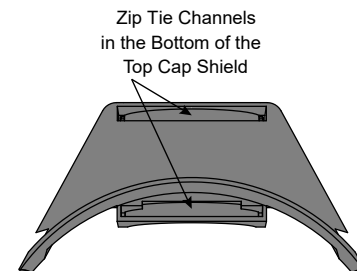

Figure 30. Zip Tie Channels
1. Thread zip ties through slots in shield. (Figure 30.).